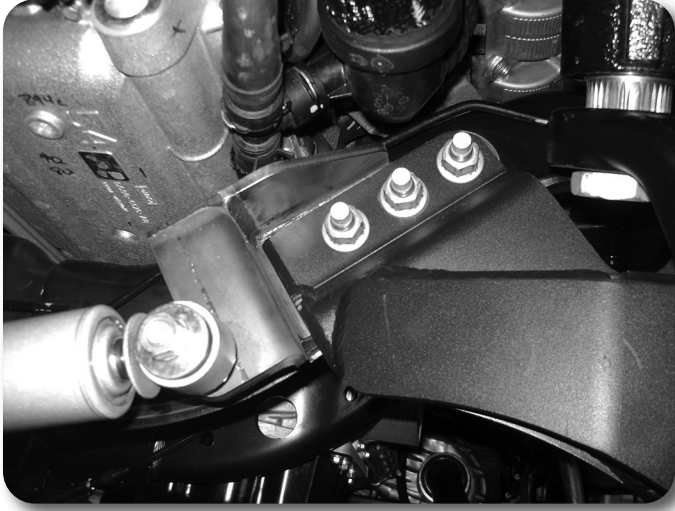

Figure 7
17. Install the new track bar bracket using the stock mounting hardware as it was removed **Figure 7**. Torque all (5) mounting bolts to 129 ft-lbs. Do not install track bar at this time, it will be installed once the vehicle is on the ground.